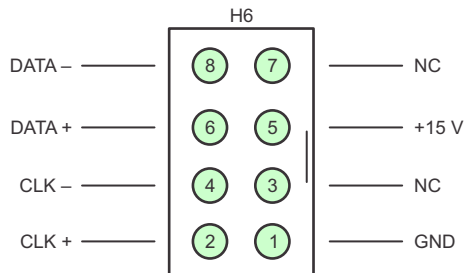

图 11. Abs-Enc-1 (J7) Pinout on TIDM-1010 Board
2. Insert the header of the adaptor created in the previous step to connect to Abs-Enc-1 (J7). The female end of the cable connects to the encoder. 图 11 shows the pinout of J7.